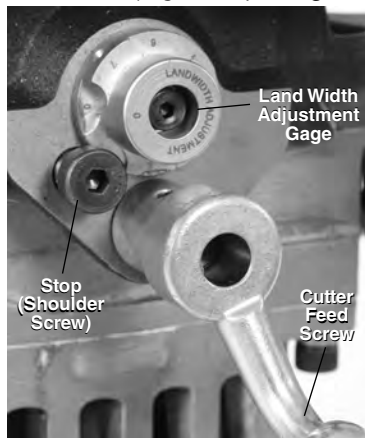

Figure 18 – Land Width Adjustment Gage Setting
6. Set the desired bevel land width (*Figure 18*) using the land width adjustment gage. If set to "0" there will be no land on the end of the pipe. Each step on the land width adjustment gage is approximately a 1/32" (0.8 mm) different from the adjacent step. (1 ~ 0.03" (0.8 mm) land width, 2 ~ 0.06" (1.6 mm), etc.) Move the needed step of the gage so it aligns under the head of the stop.
8. Using a smooth continuous clockwise rotation of the cutter feed screw (*Figure 18*); engage the cutter head into the work piece until the stop contacts the land width adjustment gage. Do not use cutting oil or coolant.